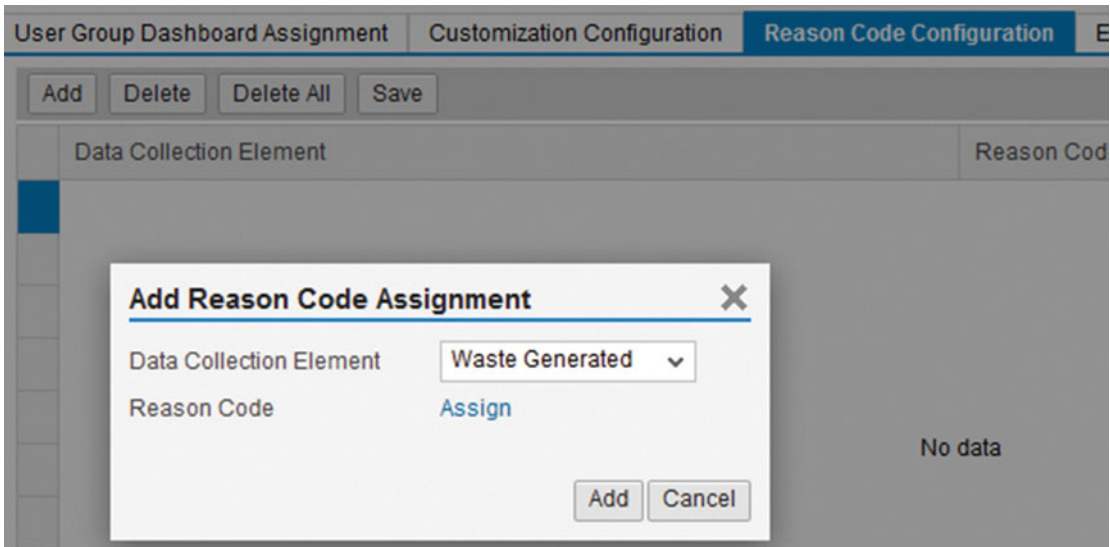

Figure 5-20. Reason code configuration: add DCE
3. Select the data collection element from the drop-down for which you need to define the reason code. These are listed from the data maintained in the ERP OEE add-on. Refer to Figure 5-20.